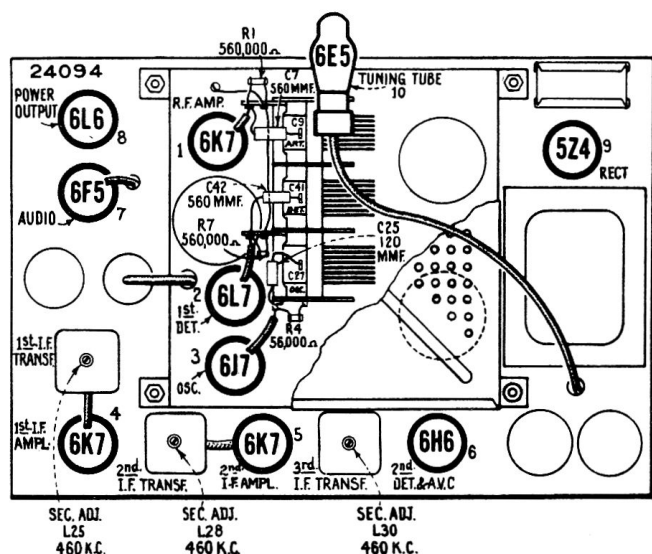

Figure 1—Radiotron and I-F Trimmer Locations
- (c) Adjust the two magnetite core screws **L30** and **L29** (see figures 1 and 8) of the third i-f transformer (one on top and one on bottom) to produce maximum vertical deflection of the oscillographic image. This adjustment places the transformer in exact resonance with the **460-kc** signal.